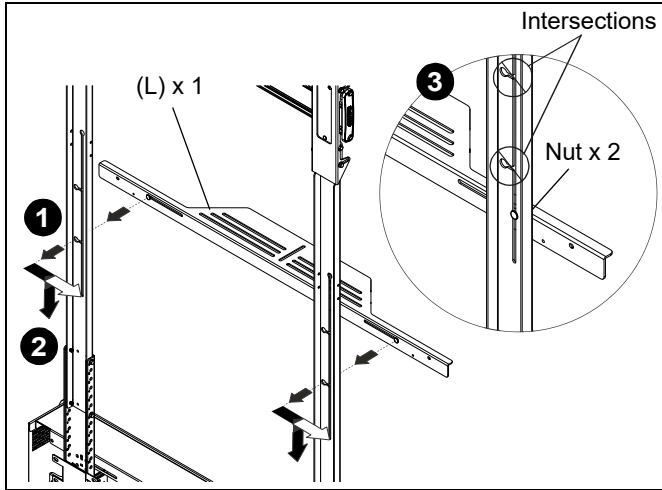

Figure 20
1. Line up the flat bolt heads on the backside of the speaker shelf (L) with the holes in the slots along both top uprights (E). (See Figure 20)
2. Insert the bolts and washers in the speaker shelf (L) into the holes, then shift the shelf to the left and down into the vertical slots.
3. Position the shelf at the desired height below the display and tighten the nuts on the front side of the shelf. (See Figure 20)